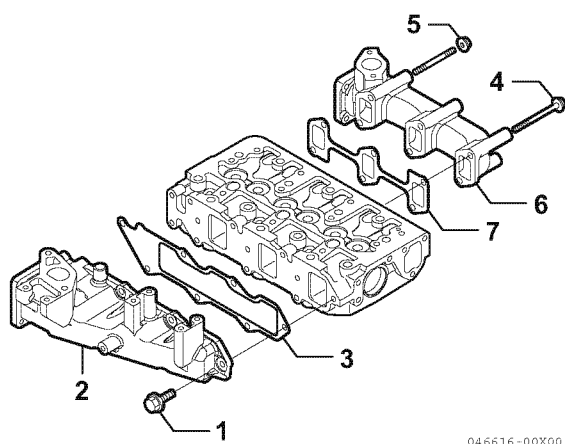

Figure 6-3
7. Remove the intake manifold bolts (1, **Figure 6-3**). Remove the intake manifold (2, **Figure 6-3**). Discard the intake manifold gasket (3, **Figure 6-3**).
8. Remove the exhaust manifold bolts (4, **Figure 6-3**) and nut (5, **Figure 6-3**). Remove the exhaust manifold (6, **Figure 6-3**). Remove and discard exhaust manifold gasket (7, **Figure 6-3**).